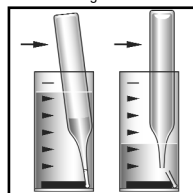

Figure 2
2. Place the CHEMet ampoule, tip first, into the sample cup. Snap the tip. The ampoule will fill leaving a bubble for mixing (fig. 2).